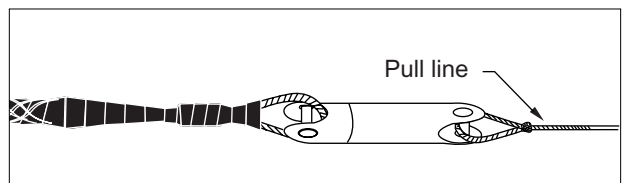

Figure 18 — Swivel and pull line
Step 20: Connect the pulling eye to the appropriate ball bearing swivel and pull tape or line (Figure 18). The grip installation is now ready for the cable placement.